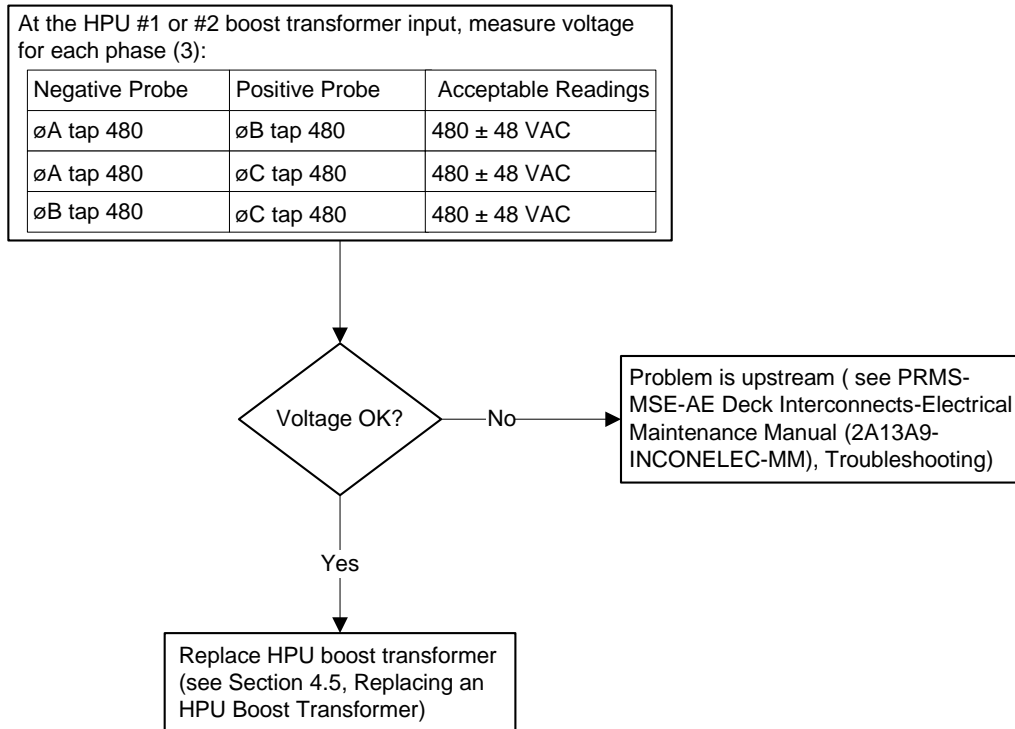

Figure 4 Troubleshooting – HPU Power #1 or #2 Doesn't Work
1. Follow the troubleshooting steps in Figure 4.